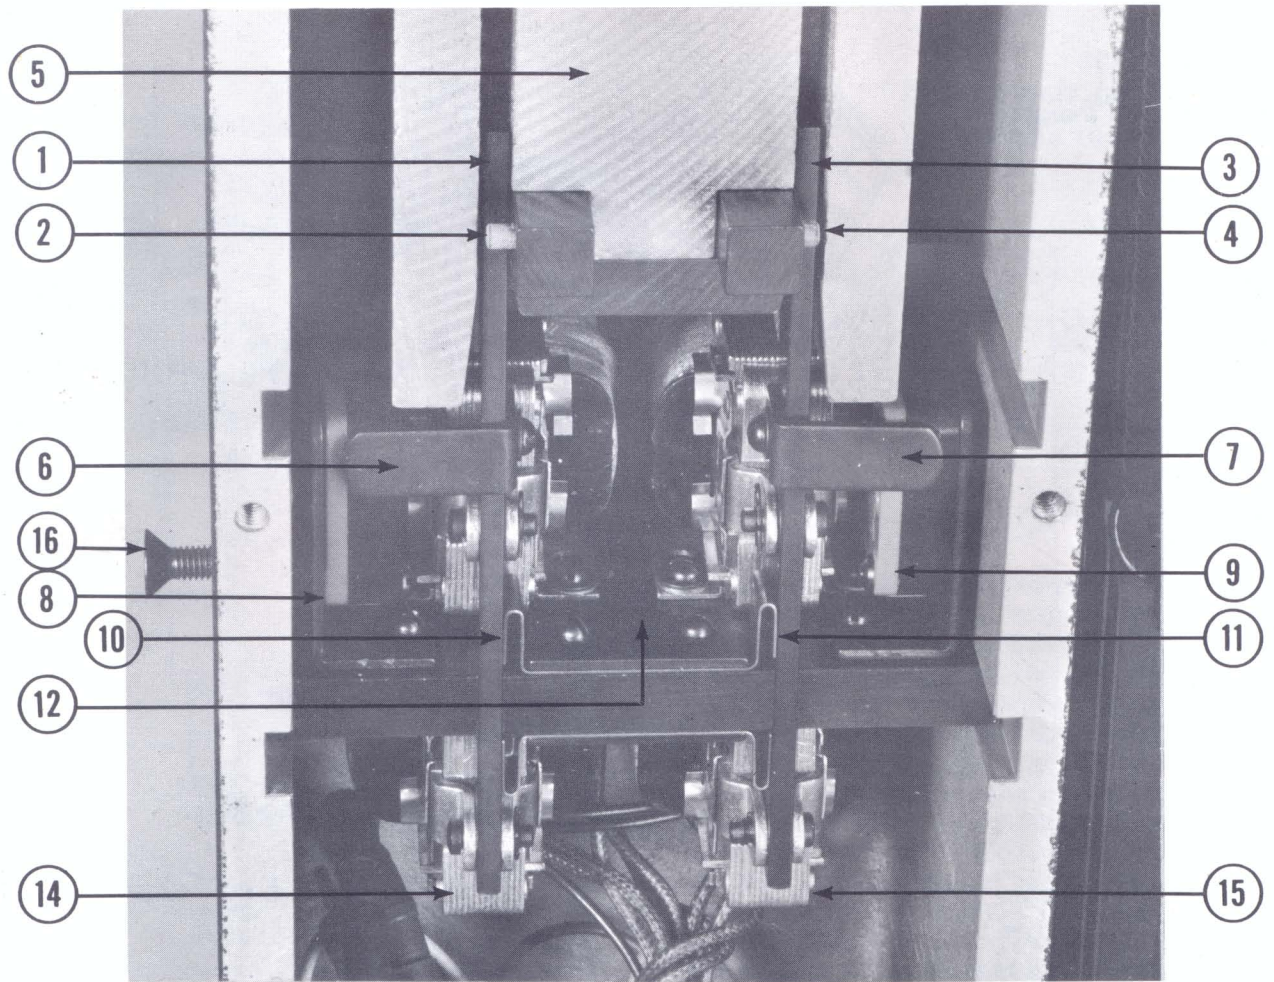

FIGURE 10
ADJUSTMENT OF SELECTOR OPERATING LEVERS (See Figure 10)
Should the Memory Circuit be put out of operation because of a damaged electrical unit the Quadder may be operated manually. First remove the relays (See Fold-Out), then remove the lower front cover on the Quadder Housing, and manually push operating levers (1) and (3) (Figure 10) in and out for the quadding function desired. Push in the left hand lever (1) for right flush; right hand lever (3) for left flush; and both levers for center.
For justified composition, remember to depress the lower part of operating levers (1) and (3), so the engaging pawls, (2) and (4) are in "out" position, as illustrated in Figure 10.